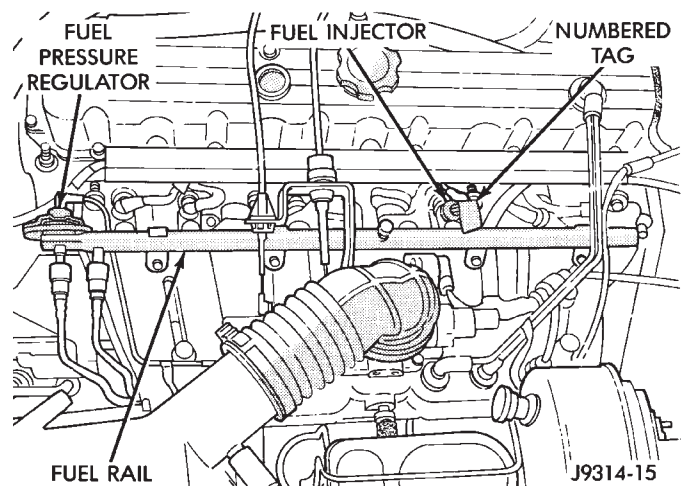

Fig. 23 Fuel Injector Wire Harness—Typical
(20) Verify that fuel injector wire harness connectors are firmly connected to the fuel injectors in the correct order. Each harness connector is tagged with the number of its corresponding fuel injector (Fig. 23).